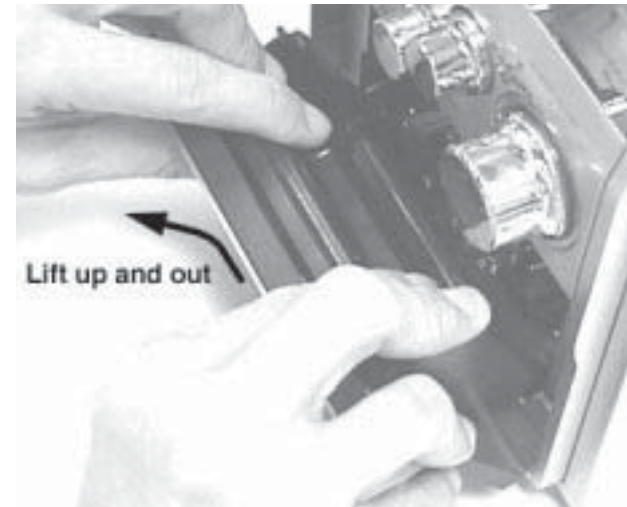

Figure 1
- 1) Remove the Cover Cassette (pos 1+pos 2) in the direction as shown in Figure 1.
- 2) Loosen 4 screws to remove the Cover Top (pos 62) by sliding it out towards the rear before lifting up.
- 3) Loosen 2 screws each to remove the Panel Left (pos 61) and Panel Right (pos 60). The Panels are removed by sliding it towards the rear and outwards.